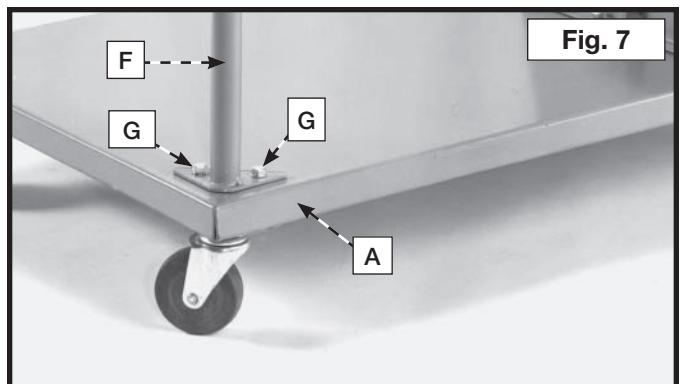

Fig. 7
- Assemble drum support (F) Fig. 7, to the two threaded holes in the corner of base (A), as shown in Fig. 7, with two 5/16-18 x 5/8" hex head screws and 5/16" lockwashers (G). **NOTE:** Do not completely tighten hardware at this time